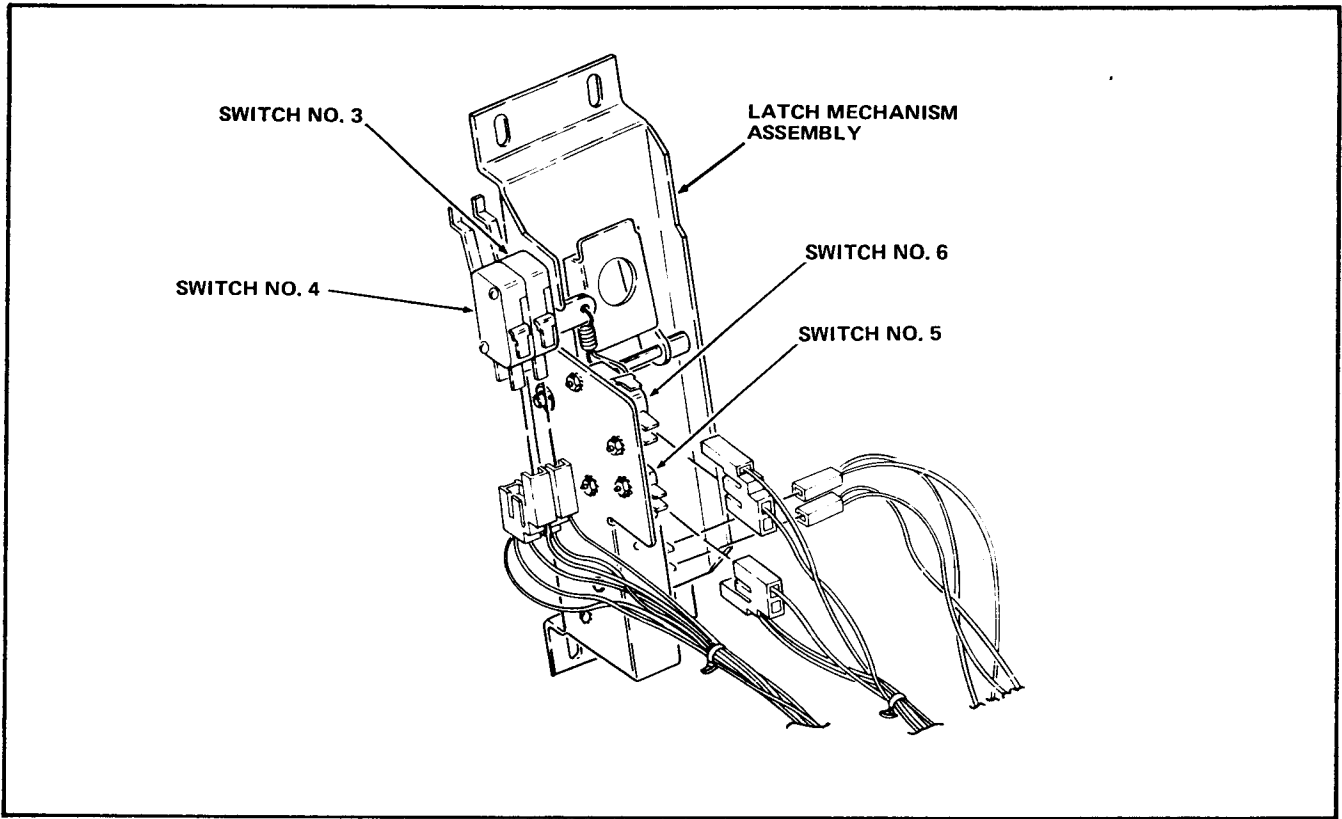

FIGURE 5
6. Connect the Delivery Door Harness to the four Delivery Door Switches and the Door Lock Solenoid on the Latch Mechanism Assembly. The Delivery Door Switches are numbered in Figure 5. Match the Correct Switch Receptacles to the correct Delivery Door Switches by wire color as follows:
4. Connect the Delivery Door Harness to the four Delivery Door Switches and the Door Lock Solenoid on the Latch Mechanism Assembly. The Delivery Door Switches are numbered in Figure 5. Match the Correct Switch Receptacles to the correct Delivery Door Switches by wire color as follows: